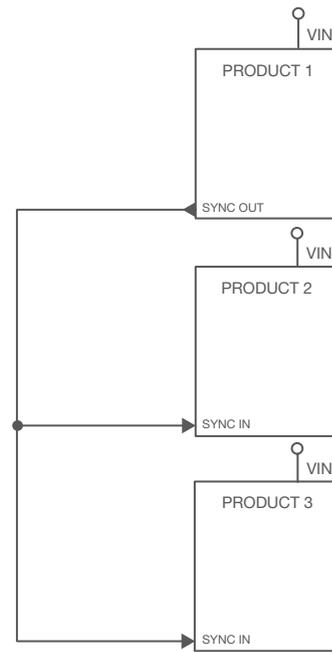
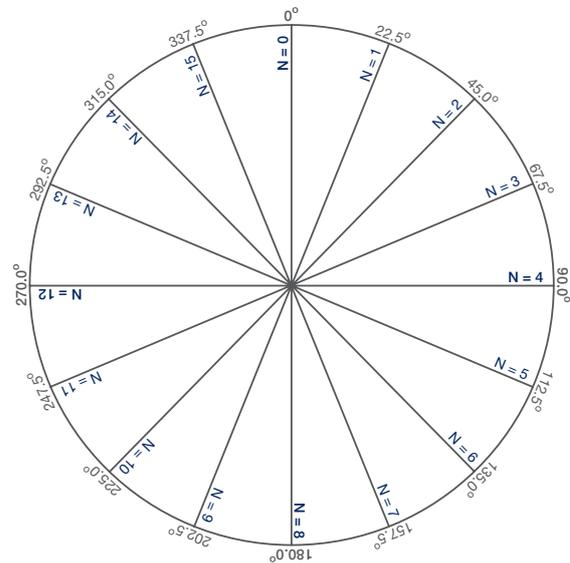

Figure 2. Internal single clock source.
Figure 4. Offset resolution for BMR450, BMR451, BMR462, BMR463 and BMR464.
2. Internal single clock source. One of the products in the group is configured to source the common switching clock by setting the SYNC pin to an output state. The SYNC pin of all other products in the group is configured as an input. See illustration in Figure 2.
While the equations provide ideal phase offsets, the actual phase offset for the BMR450, BMR451, BMR462, BMR463 and BMR464 is limited to 16 possible values, in 22.5° steps as illustrated in Figure 4. The actual phase offset becomes the ideal calculated value rounded to the closest 22.5° step.
In this example, assume three single-phase rails with a common SYNC clock, similar to Figure 2. Following the equations and using the values in Table 2, the ideal phase offsets can be calculated (also shown in Table 2). Then, by using the phase offset resolution wheel in Figure 4, we end up with our actual phase offsets.